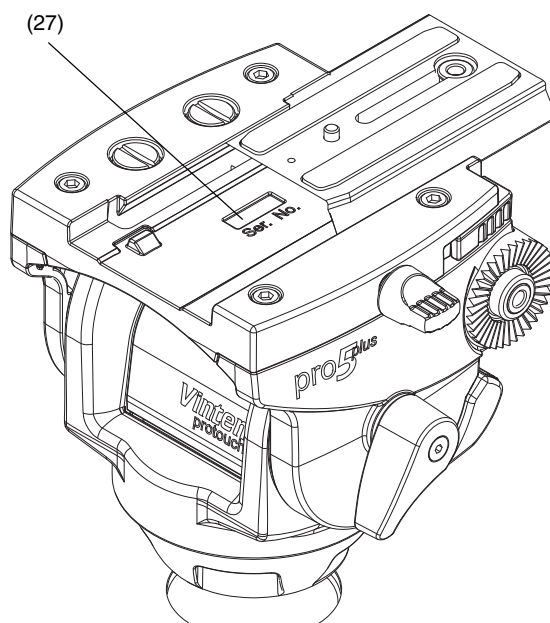

Fig. 9 Serial Number Location
The product serial number location (27) is shown in Fig. 9.